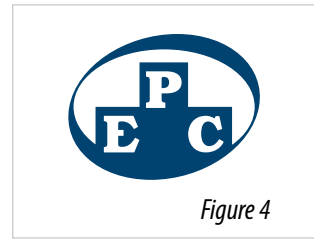

Figure 4
3. Follow the installer prompts to install the USB driver and Field Programming Software. Installer will add desktop icon during installation (see Figure 4).
7. Open Field Programming Software by double-clicking desktop icon (see *Figure 4*).